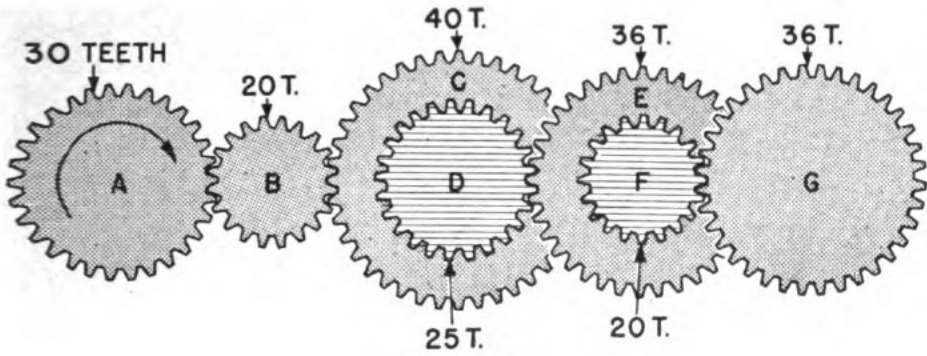

Figure 111.
3. Look at the gear train of figure 111. (a) Gear *G* will turn (Clockwise) (Counterclockwise). (b) The driver gear *A* turns 300 rpm. How many rpm will gear *G* turn? (c) What's the M. A. of the train? (d) What's the direction of rotation of gear *C*?